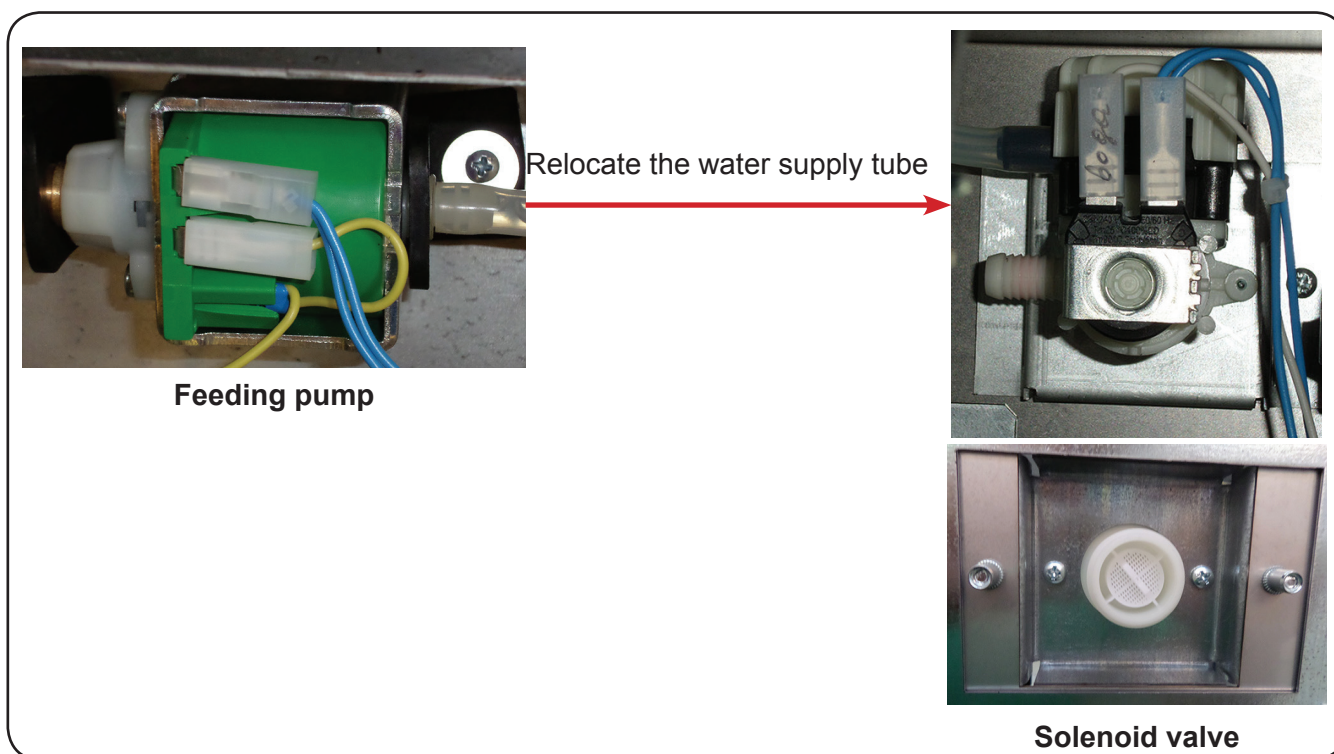

Fig.5.3 - Water supply system connection
- In accordance with the vending machine hydraulic circuit diagram relocate the water supply tube from the feeding pump to the solenoid valve (fig. 5.3). The pump and the solenoid valve are located on the back wall in the lower part inside the vending machine.